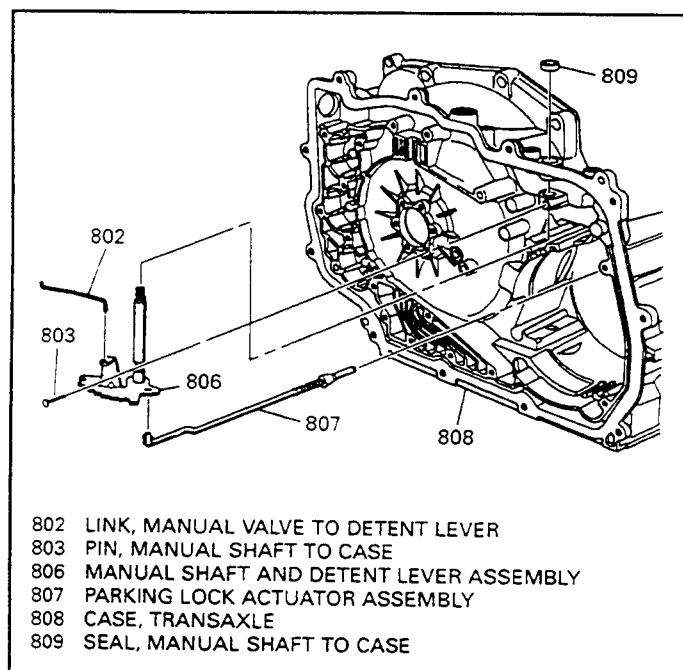

Figure 91
20. Install the manual shaft and detent lever Asm. (806) into the case with the parking actuator rod, and the manual valve link, attached to the detent lever (See Figure 91).